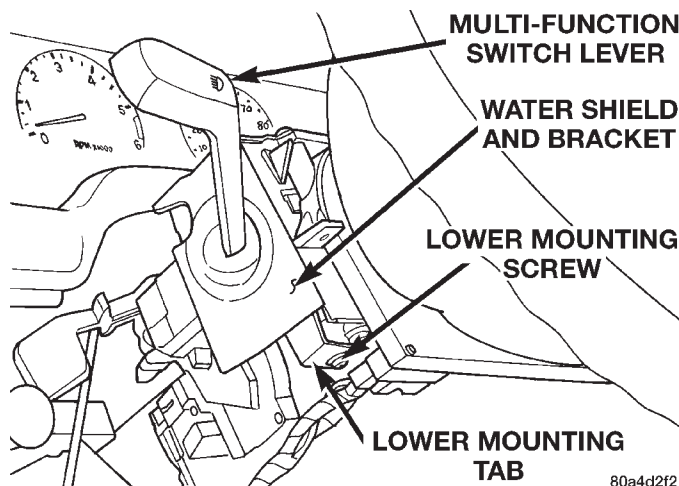

Fig. 7 Water Shield Lower Screw Remove/Install
(11) Remove the one screw located below the multi-function switch lever that secures the switch water shield and bracket to the steering column (Fig. 7).
(12) Gently pull the lower mounting tab of the switch water shield bracket away from the steering column far enough to clear the screw boss below the multi-function switch lever.
(13) Lift the water shield and bracket with the multi-function switch away from the steering column far enough to access the two multi-function switch wire harness connectors. If the vehicle is equipped with the optional tilt steering column, lifting gently upward on the tilt release lever will provide additional clearance to ease multi-function switch removal.